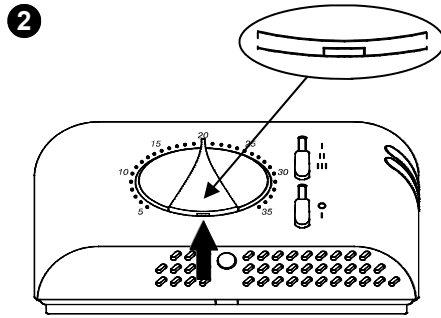

Fig. 3
- 2** Move both sliders all the way down and position the knob at 20°C; lift the knob using a screwdriver as shown by the arrow in Fig. 3, being careful not to scratch the cover.